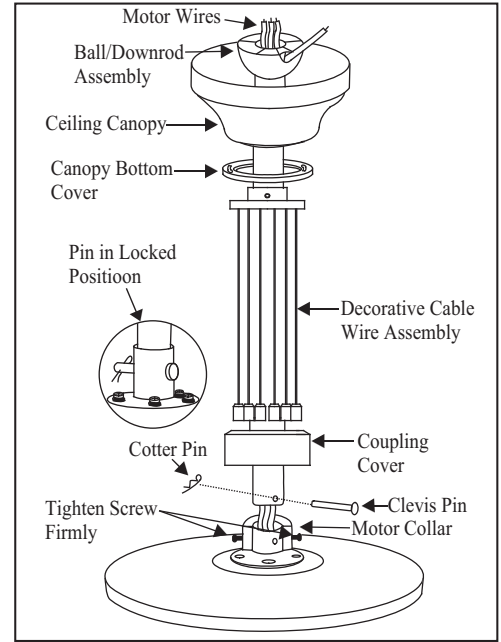

Figure 5
3. Remove the clevis pin, cotter pin and set screws from the top of the motor assembly. (Fig.5)
5. Route wires exiting from the top of the fan motor through the coupling cover, decorative cable wire assembly, canopy cover, canopy and then through the ball/downrod. (Fig. 5)
6. Align the holes at the bottom of the downrod with the holes in the coupling on top of the motor housing. (Figure 5) Carefully insert the clevis pin through the holes in the collar and
downrod. Be careful not to jam the clevis pin against the wiring inside the downrod. Insert the cotter pin through the hole near the end of the clevis pin until it snaps into its locked position, as noted in the circle inset of Fig. 5.
7. Tighten two set screws at top of the fan motor collar firmly and evenly. (Fig. 5)